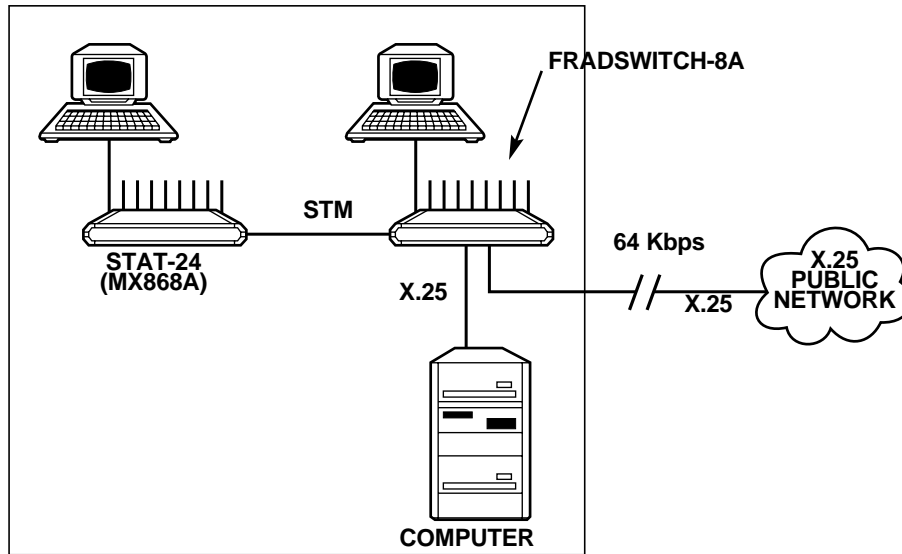

Figure 2-2. Fradswitch-8A providing X.25 switching and async channel expansion.
- Expansion of the number of asynchronous inputs, using statistical multiplexors (proprietary). (See **Figure 2-2**.)